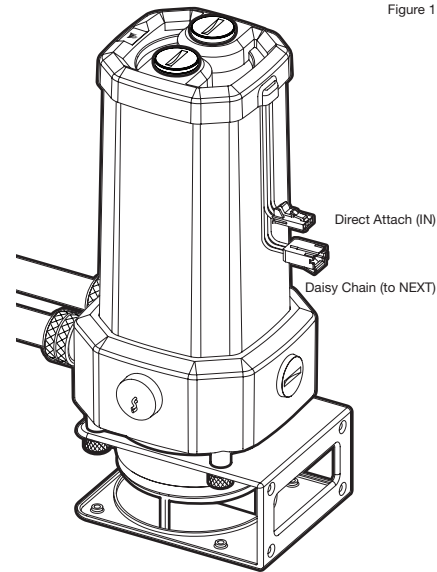

Figure 1
1. Определите правильный RGB разъем на блоке резервуара-насоса (Рис. 1).
1. Disconnect PSU power cables from all computer components except the XD5 RGB 4-pin Molex power connector. Make sure the PSU is turned OFF, either at the plug socket, or via the toggle switch on the rear of the PSU. Connect the enclosed ATX 24-pin PSU Jumper Bridge starter (D) to your PSU 24-pin ATX cable. This will allow you to power on your XD5 RGB without powering on the PC (Figure 1).